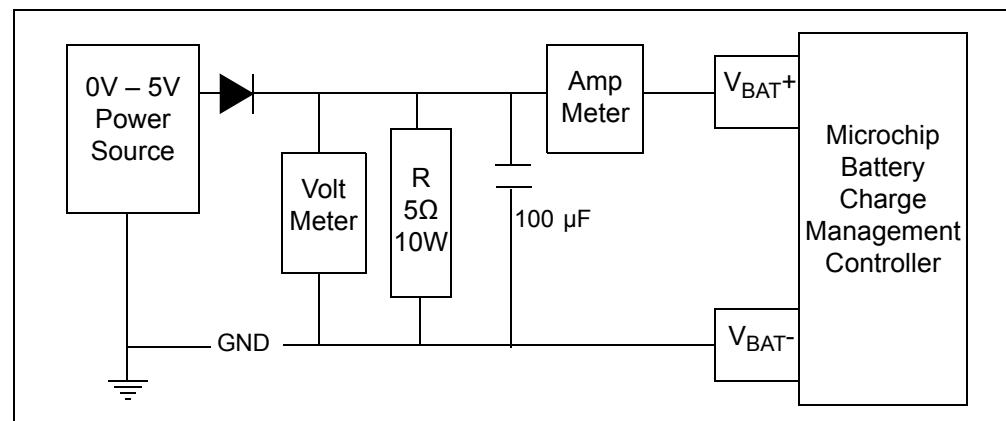

FIGURE 2-2: Simulated Battery Load.
- 3: The Li-Ion battery pack can be replaced with test circuit or electronic load that can sink current with DC power supply. Refer to Figure 2-2 for details.